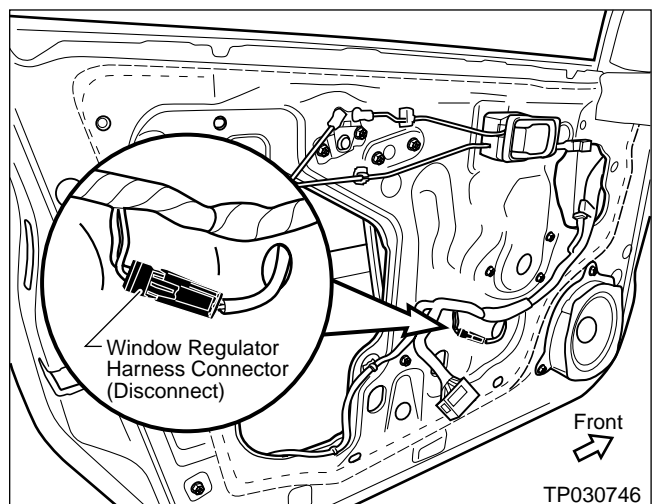

Figure 9
12. Disconnect the Window Regulator Harness Connector (see Figure 9).